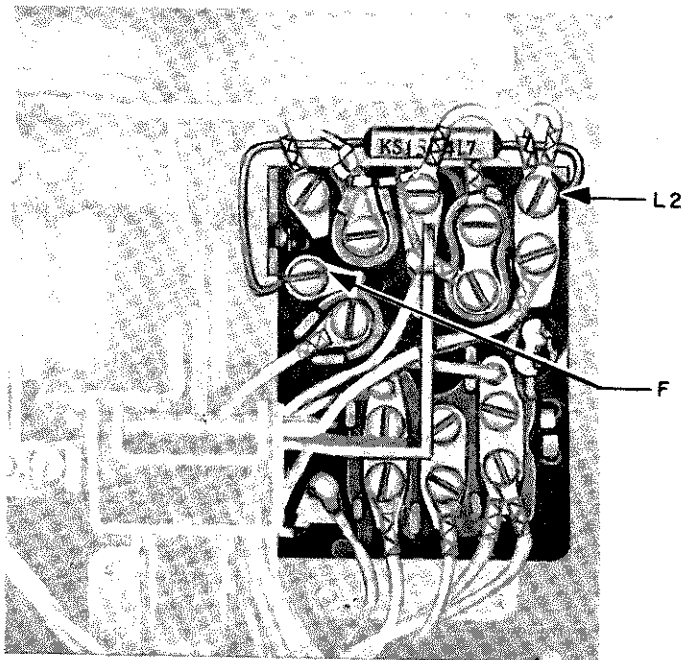

Fig. 3 - 500C, D or 501C, D Telephone Set,
2.03 The KS-13814, List 7 capacitor is installed in the 500C, D and 501C, D telephone sets as shown in Fig. 3. It is connected across the F and L2 terminals of the 425B network. If the set is used as the tip station on 2-party message rate service, the capacitor should be connected across L1 and L2 of the 425B network. Cover the exposed portions of the capacitor leads with tubular insulation. For low-frequency interference, another KS-13814, List 7 capacitor may be needed across terminals R and RR on the 425B network.